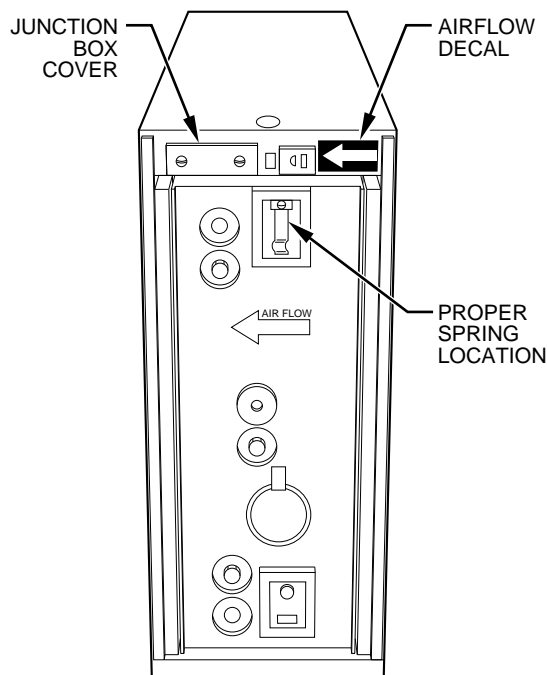

Fig. 24—Final Assembly Detail
2. Check contact spring location. Cell contact springs **MUST** be relocated for **left-hand** units or applications. Remove screw holding contact spring to cells and reinstall at opposite end. (See Fig. 24.) Be sure all airflow arrows are pointing in the direction of the airflow through the air cleaner and that the pre-filters are on the entering-air side.
5. Unit can be installed with airflow through cabinet in either direction. Apply airflow decal provided to cabinet, observing actual airflow direction. (See Fig. 24.)